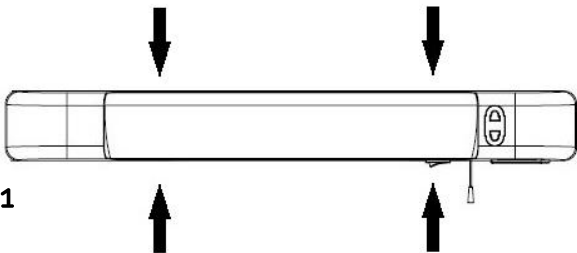

Fig. 1
- Remove the diffuser by gently squeezing inwards top and bottom at both ends then pull away from the luminaire, (see Fig. 1)